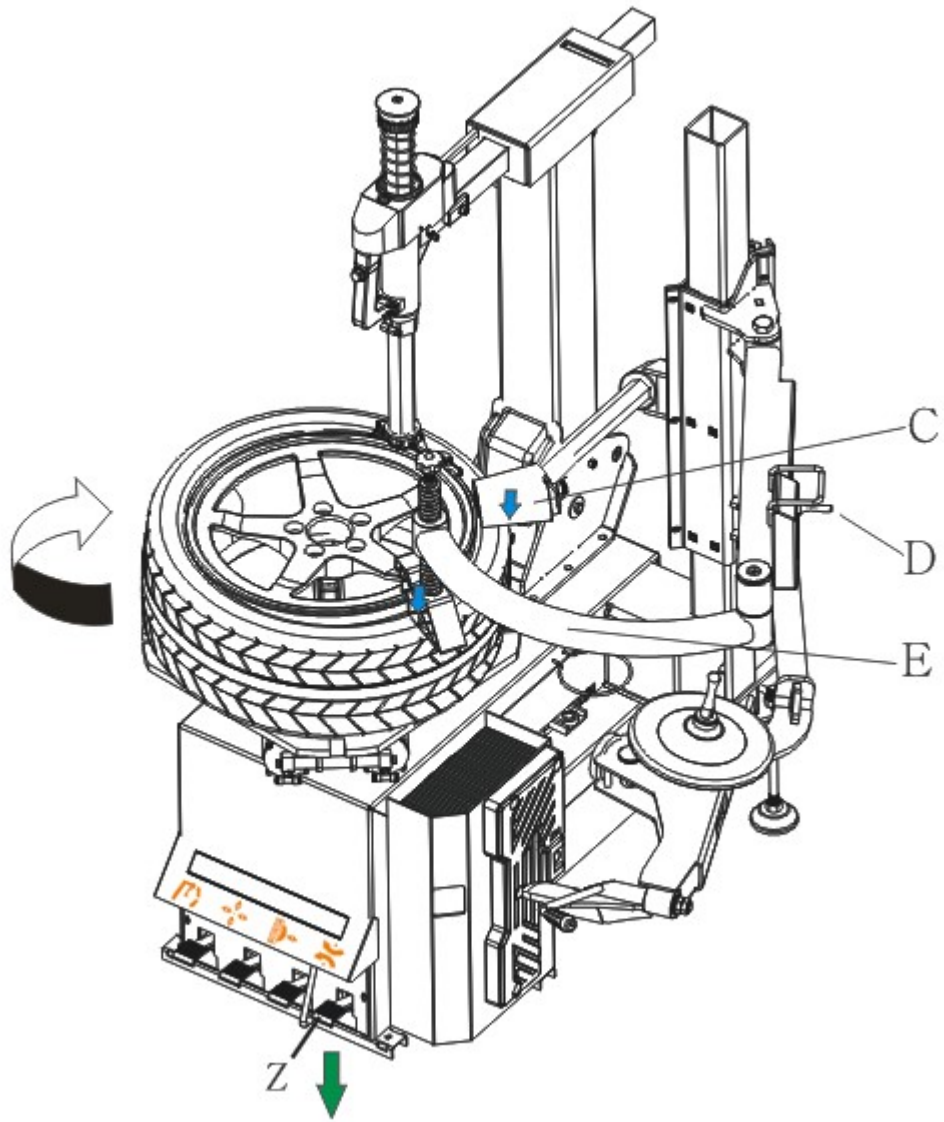

Fig. 13
- Raise the assistant arm use the switch D, move the roller C upon the tyre, turn the arm E to make the block at the position as in Fig.13. Turn down the arm and make the tyre bead under the mounting head with the roller C, in the meanwhile adjust the arm E and press the tyre bead into rim with the block, in order to reduce abrasion(Fig. 13)
- Press the pedal Z and turn the working plate, the block also followed the rotation accordingly, until fit on the upper bead with the help of mounting head.(Fig. 13)
**⚠️Note:** In case that stuck during the operating, please stop immediately to avoid any damage on the tyre. It is necessary to “raise”(move upwards) the inverter pedal(Z) making the chuck rotate in an anti-clockwise direction. Readjust the place of the roller and block, operate again according to the way in Fig. 13.